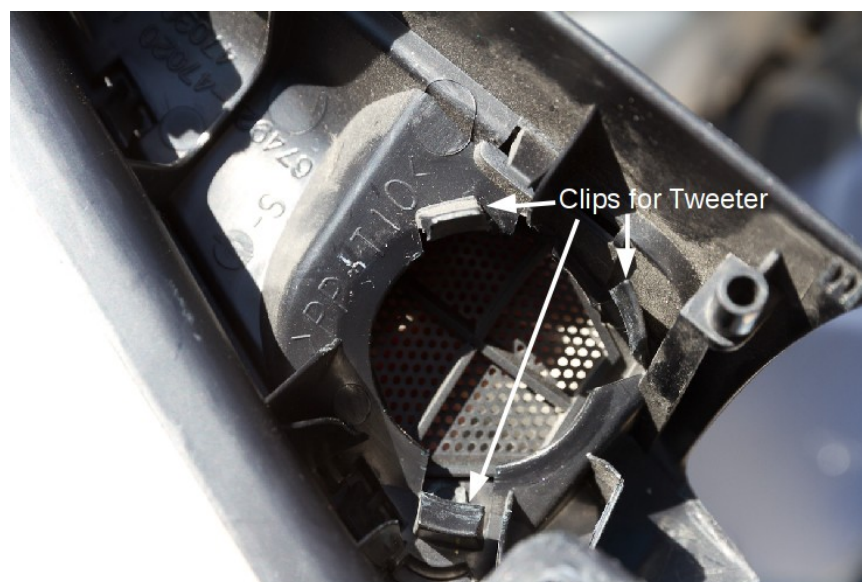

**Figure 1: Tweeter housing pulled away from door.**
1. Pull the tweeter housing out, straight away from the door. The housing is held in place with two clips, one is part of the black plastic housing itself (with a metal clip attached) and the other is a white push-type retaining clip (see Figure 1). In this instance the clip has remained in the door and has pulled out of the clip holder on the tweeter housing. You will see many of these white clips in the door panel and about 50% of them will stay in the door. The metal part of the top clip fell off and got lost from my driver's side tweeter housing but it still goes back into place well enough.